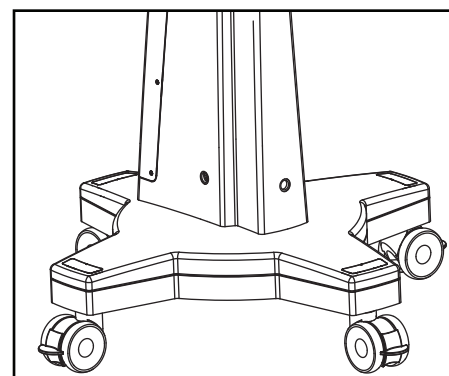

Fig. 23
Locks the stand from unwanted movement by pressing down the red crest provided on all four caster wheels. To unlock push the crest upward. refer (E) fig 23.